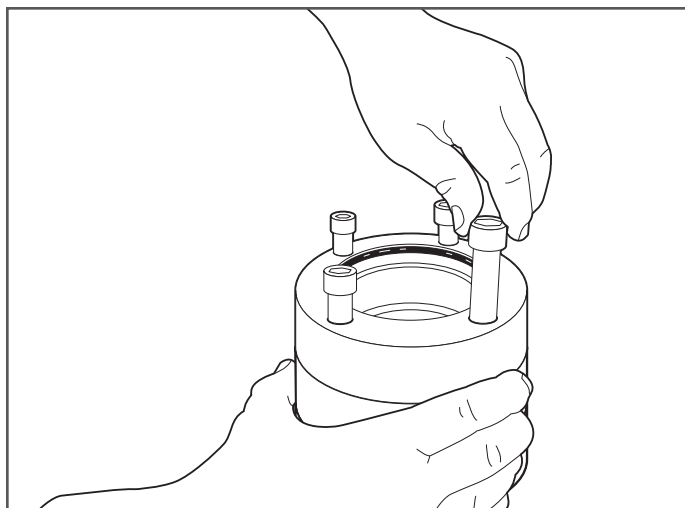

Figure 7-8
9. Remove all cap screws (Figure 7-8).